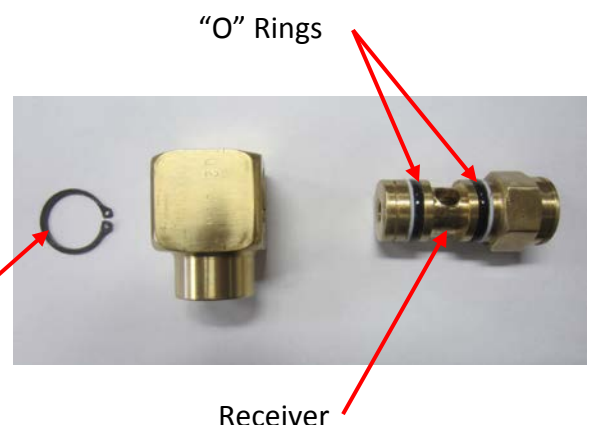

Figure 4-38-2
- 3) Apply "O" ring lubricant around the receiver of the brass swivel elbow (Refer to Figure 4-38-2).
- 4) Slide the brass swivel elbow over the receiver end and install the "C" retainer ring (Refer to Figure 4-38-2).
- Remove the two “O” rings (Refer to Figure 4-38-2)